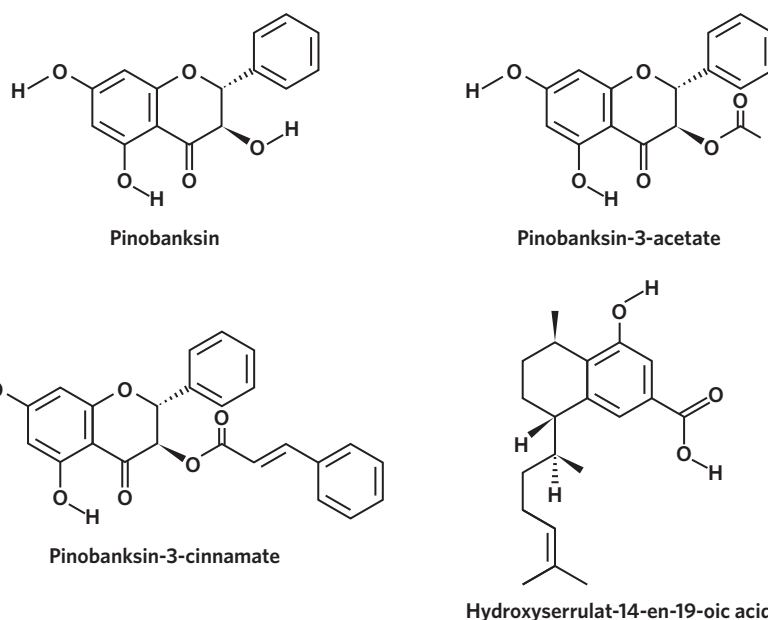

Figure 10 Structures of potential active ingredients in emu bush extract
Following this, the peak areas of the constituent compounds can be compared to quantitatively determine the relative percentage of each compound in the mixture. Finally, mass spectroscopy (MS), infrared spectroscopy (IR), and nuclear magnetic resonance spectroscopy ($^1\text{H-NMR}$ and $^{13}\text{C-NMR}$) are used to determine the functional groups and exact structures of the compounds present. Figure 10 displays the structures of each investigated potential active ingredient present in the emu bush extract.